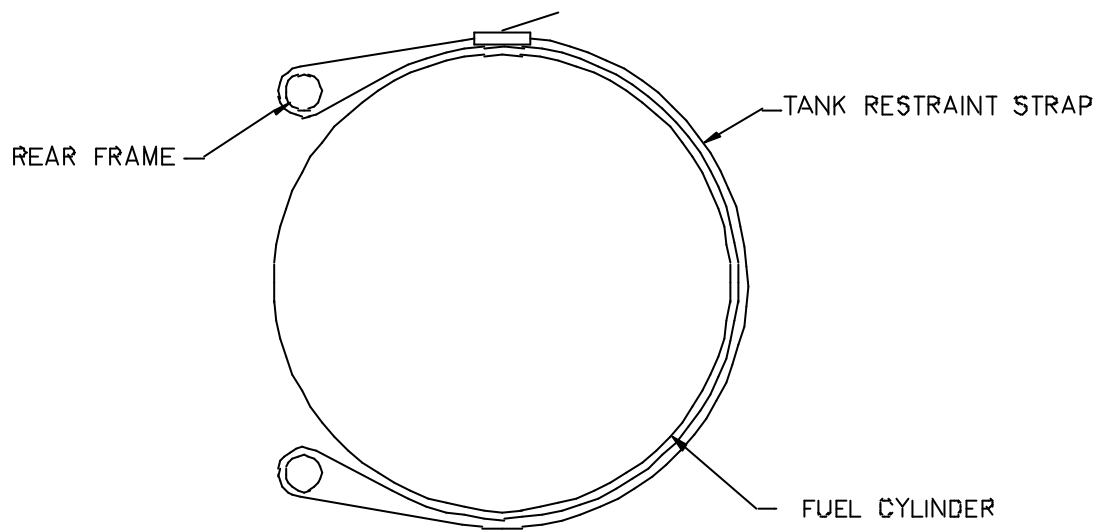

FIG 2 TANK RESTRAINT STRAP ROUTING
i) Hook the fuel cylinder (item 4) foot ring over the keep plate (item 12) situated at the lower end of the rear frame (item 3).
ii) Loop the tank restraint straps (item 5) through the triangular loops mounted on the rear frame and pass around the cylinder, as shown in Figure 2. Fully tighten the straps.